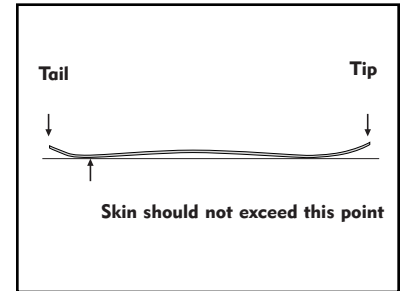

FIGURE 14
2.) Climbing skins should not exceed the length of the running surface of the board. If this length is exceeded trim with scissors or the included trim tool. Further if the width of the skin exceeds the width of the board half you can trim the excess width with included trim tool. It is also acceptable to trim the tail of the skin to match the curved contour of the tip of the skin where the tip loop is attached. This will prevent any glue from being exposed when the skins are folded glue to glue. (See Figure 14)